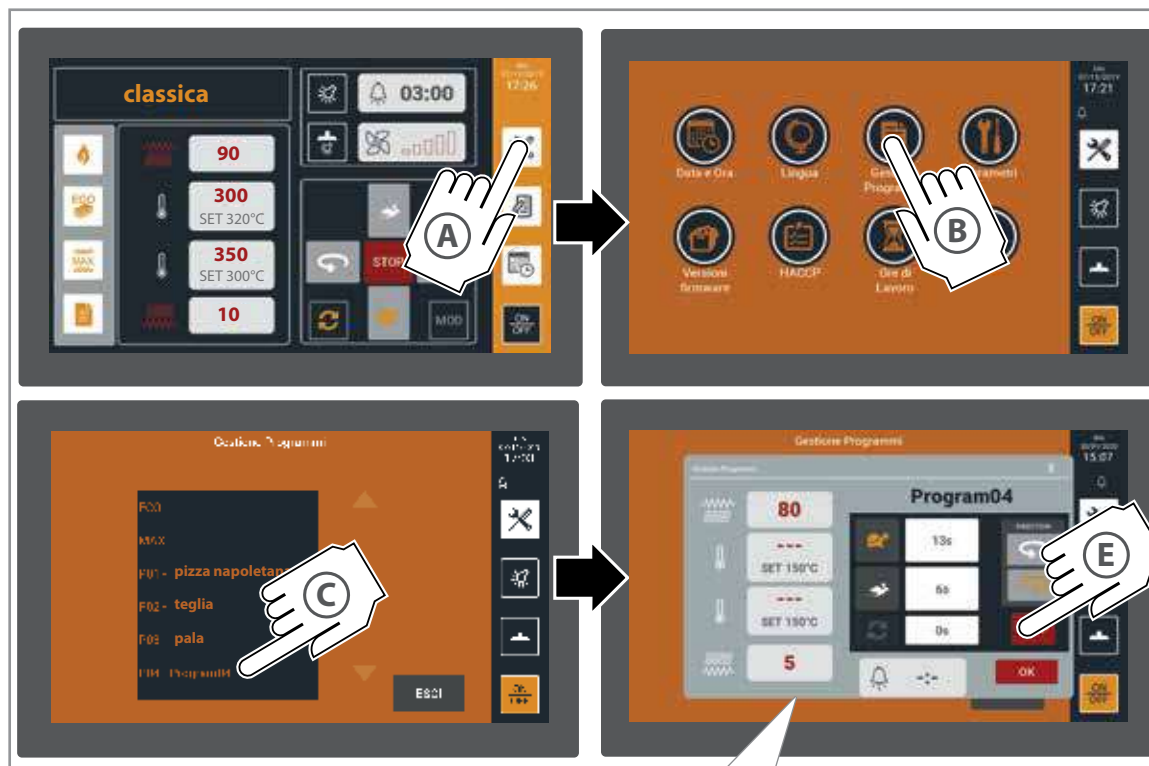

Fig. 22
► Fig. 22
- (A) Touch the "Service" icon (with the oven in stand-by),
- (B) touch the "Program management" icon,
- (C) touch the first free position, that is, a position where there is no recipe already stored (in the example position "P4").
- (D) Set all the parameters required to create the recipe. Touching the corresponding field, an alphanumeric keypad will be displayed, which you can use to set the desired value
- (E) Confirm with "OK".